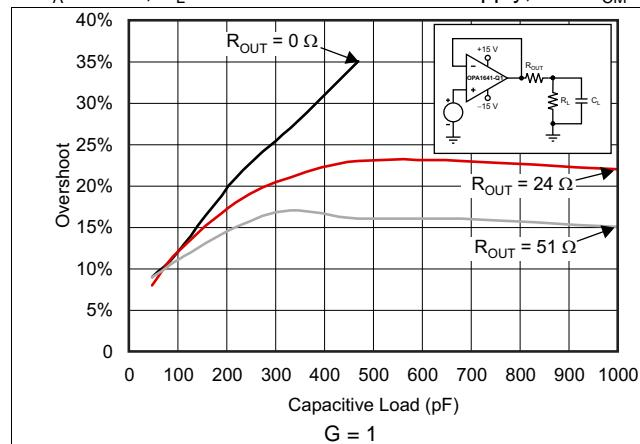
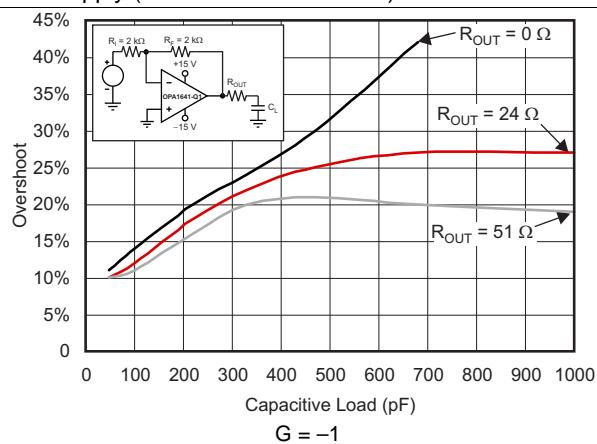

图 19. Small-Signal Overshoot vs Capacitive Load
图 20. Small-Signal Overshoot vs Capacitive Load
(1) Full power bandwidth = $SR / (2\pi \times V_P)$, where SR = slew rate.
(2) See Figure 19 and Figure 20.
图 19 and 图 20 illustrate graphs of *Small-Signal Overshoot vs Capacitive Load* for several values of R_{OUT} . For details of analysis techniques and application circuits, see see *Feedback Plots Define Op Amp AC Performance* available for download at www.ti.com